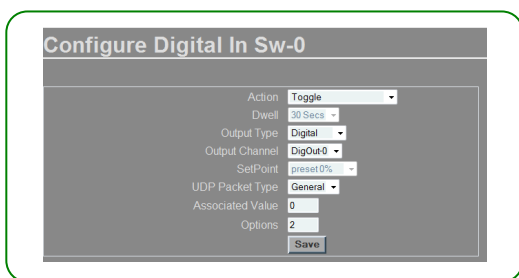

Figure 4: Toggle Configuration
- If pressing the button Sw-0 still does not result in a change of state in the output 0, then please check the settings of digital input 0 on the configuration page (see figure 4) as this is likely to be the source of failure.